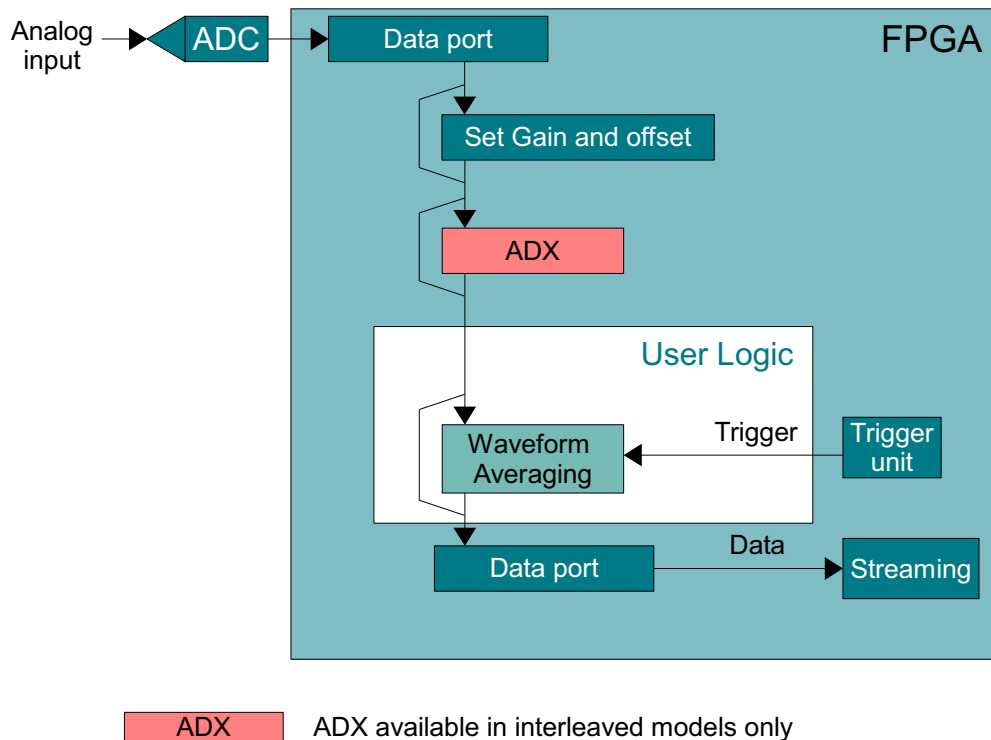

Figure 3: ADQ V6 digitizer family; block diagram placing the WFA
Figure 3 shows the location of the Waveform Averaging block in the FPGA of the ADQ V6 digitizer family. Default mode of the digitizer is to bypass the Waveform Averaging block.
2. For ADQ V6, this is the link from WFA to host interfaces, Figure 3